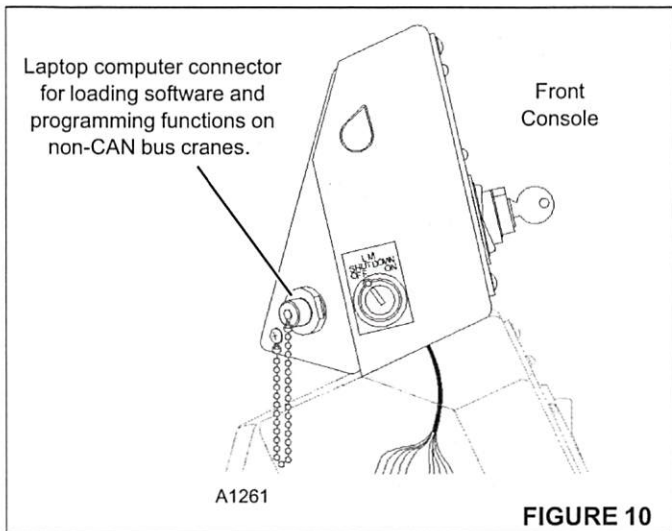

FIGURE 10
7. Connect download harness to install port and to RS 232 serial port on laptop (see Figure 10).